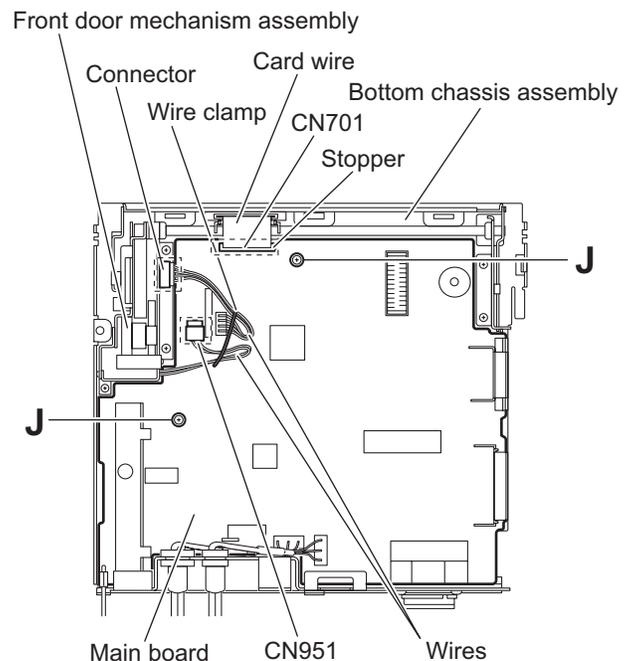

Fig.12
- (2) From the top side of the bottom chassis assembly, remove the two screws **J** attaching the main board to the bottom chassis assembly. (See Fig.12)
- (3) Release the stopper of the connector CN701 on the main board in an upward direction, disconnect the card wire from the connector CN701. (See Fig.12)
- (4) Disconnect the wire from the connector of the front door mechanism assembly. (See Fig.12)
- (5) Disconnect the wire from the connector CN951 on the main board. (See Fig.12)